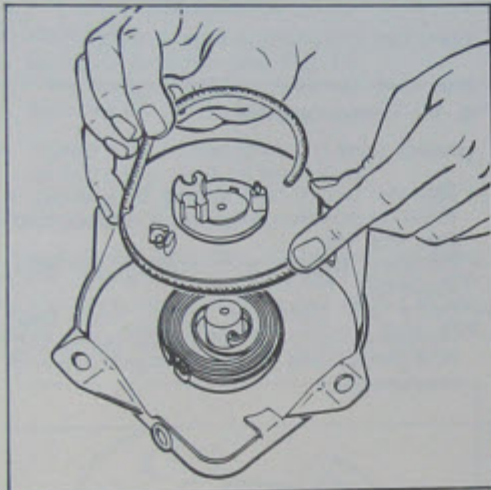
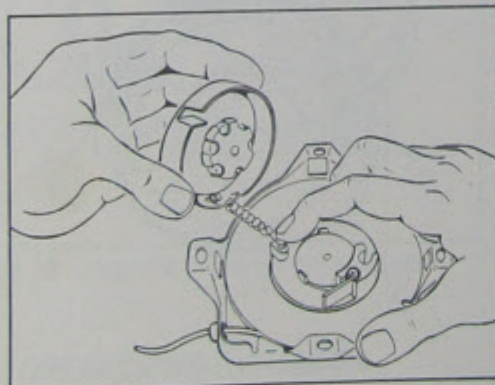

Fig. 10 Fitting the pulley
Fig. 11 Locating return spring
- Re-seat pulley after having wound on the rope leaving the end through the notch provided on the pulley (see fig. 10). Insert pulley into the container, making sure that the spring locates in the notch provided.
- Reassemble brake (6) and washers 3 and 7) on retainer hub, greasing liberally.
- Connect return spring (5) to lug on retainer hub (4), then, tensioning the spring, connect the other end to the post on the pulley while simultaneously seating retainer hub (see Fig. 11) and secure with screw and washer (1 and 2).